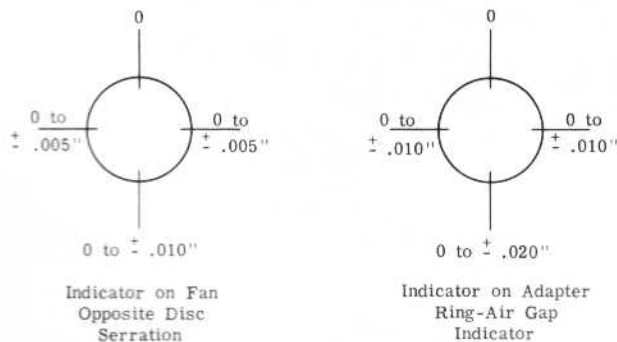

Fig. 22 - Dial Indicator Alignment Tolerances Model D12G and D12H
- e. The generator alignment is considered satisfactory when the indicator readings are to or within the indicator tolerances given in Fig. 22. To conform to these tolerances it will likely require slight relocation and/or shim adjustment under the generator supports. Full length shims should be used if possible, however, spot shims may be used to conform to the limits. Since any movement of the generator frame affects both the air gap and the coupling, readings must be taken following any correction. Also, the bearing thrust dimension should be carefully rechecked after final coupling alignment, to be sure that it is still within the limits given under Item 1.